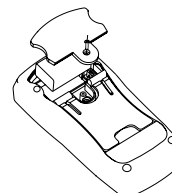

figure 10
A. Replacing the Battery (see figure 10)